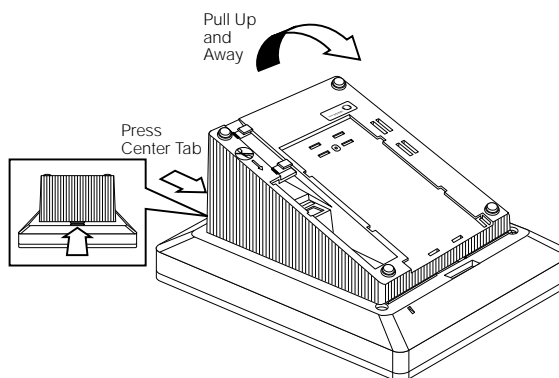

Figure 3-30. Adjusting or Removing the Deskstand
- ▶ **1. Remove or adjust the deskstand. See Figure 3-30.**